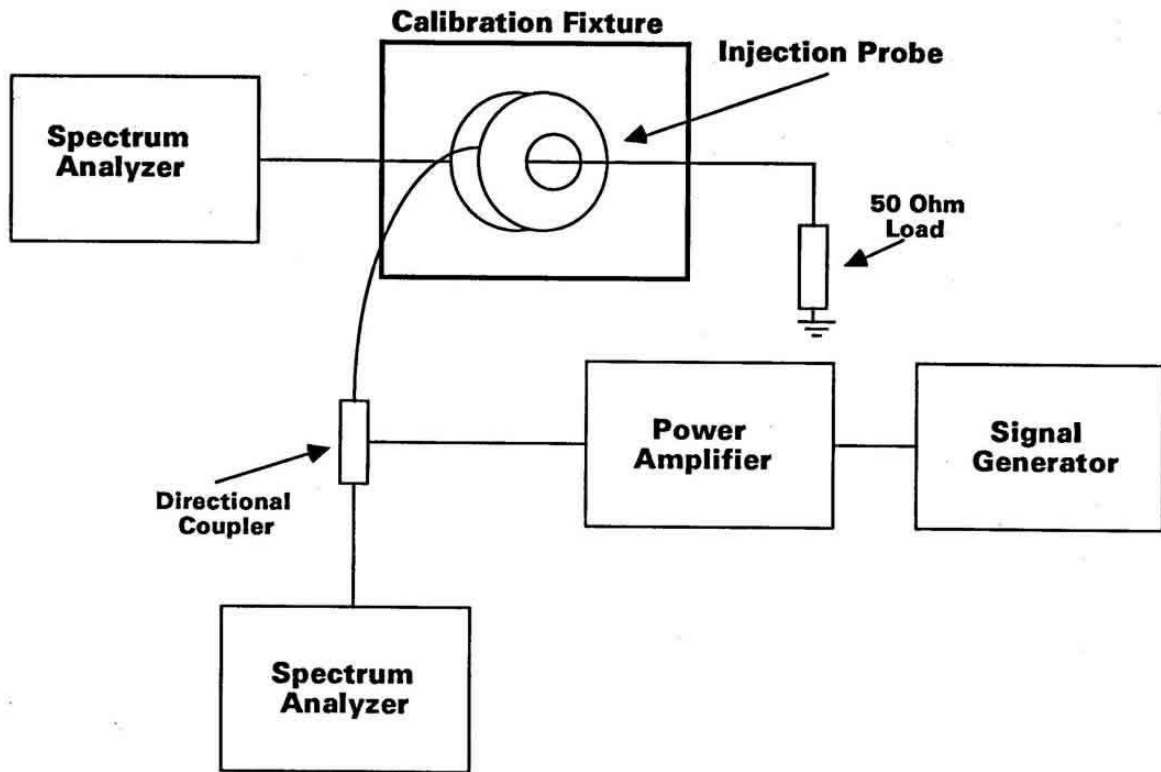

Figure 2
The limits of current are established in a "Precalibration Test Set Up". This test configuration is shown in Figure 2.
- 1) The injection probe will be clamped in the calibration fixture as shown in Figure 2.